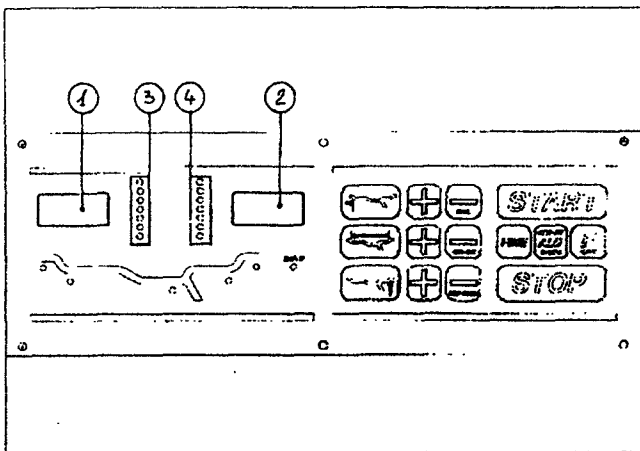

Fig.56
Hold the gauge steady until the values of diameter and offset will blink ('—' and '—' on displays #1 & #2 Fig.56).
B. Read the imbalance amount on the inner display (#1 Fig.56).
Turn the wheel until the displays of the inner plane imbalance position indicator (#3 Fig.56) are all lit on and blink.
C. Correct the imbalance on the outer plane in the same way (reading the datas on display #2 Fig.56 and leds #4 Fig.56).